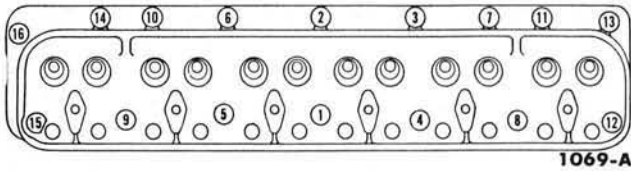

FIG. 20—Cylinder Head Bolt Tightening Sequence
3. The cylinder head bolt tightening procedure is performed in three progressive steps. Tighten the bolts to 55 foot-pounds torque in the proper sequence (Fig. 20), then tighten them to 65 foot-pounds torque in the same sequence. Finally, tighten the bolts to 75 foot-pounds torque in the same sequence. **After the cylinder head bolts have been tightened to specifications, the bolts should not be disturbed.**